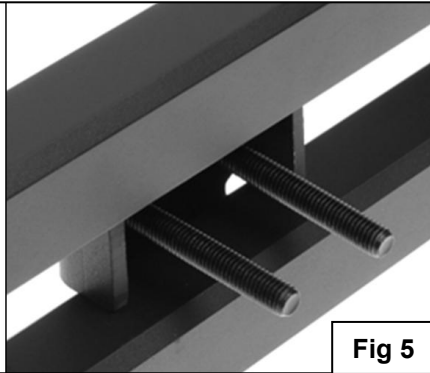
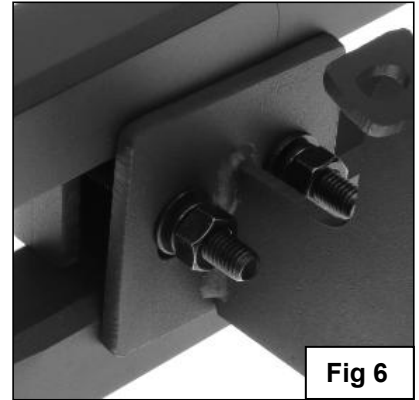

Fig 5
Fig 6
4. Select the Driver Side Bar. Slip (2) M10X1.5-75 Carriage Bolts into each 2-Hole Support Brackets, and insert the 2-Hole support bracket into the Driver Side Bar. **(Fig 5)**. Carefully position the Bar onto the (3) Mounting Brackets. **IMPORTANT: Do not slide the Bar on the Brackets or damage to the finish may result.** Attach the Driver Side Bar to the Mounting Brackets with (2) M10 Hex Nuts, (2) 10mm lock washers and (2) 10mm flat washers, **(Fig 6)**. Do not tighten hardware.